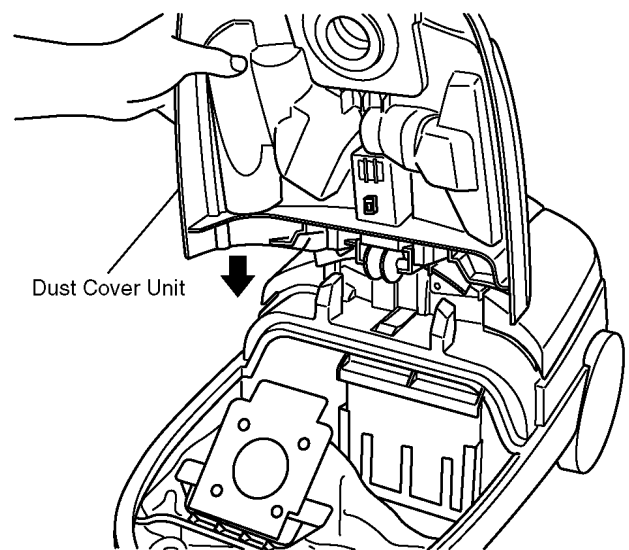

Fig.4
1. After aligning the front dust cover unit, fit the dust cover unit into the upper body by tapping the rear part. (Fig.4)